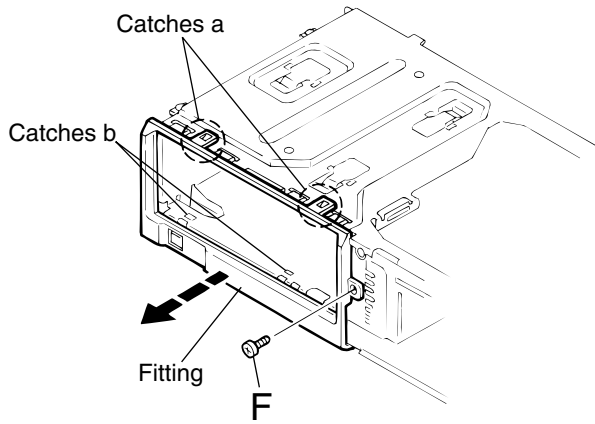

Fig. 10
■ **Removing the fittings (See Fig.10)**